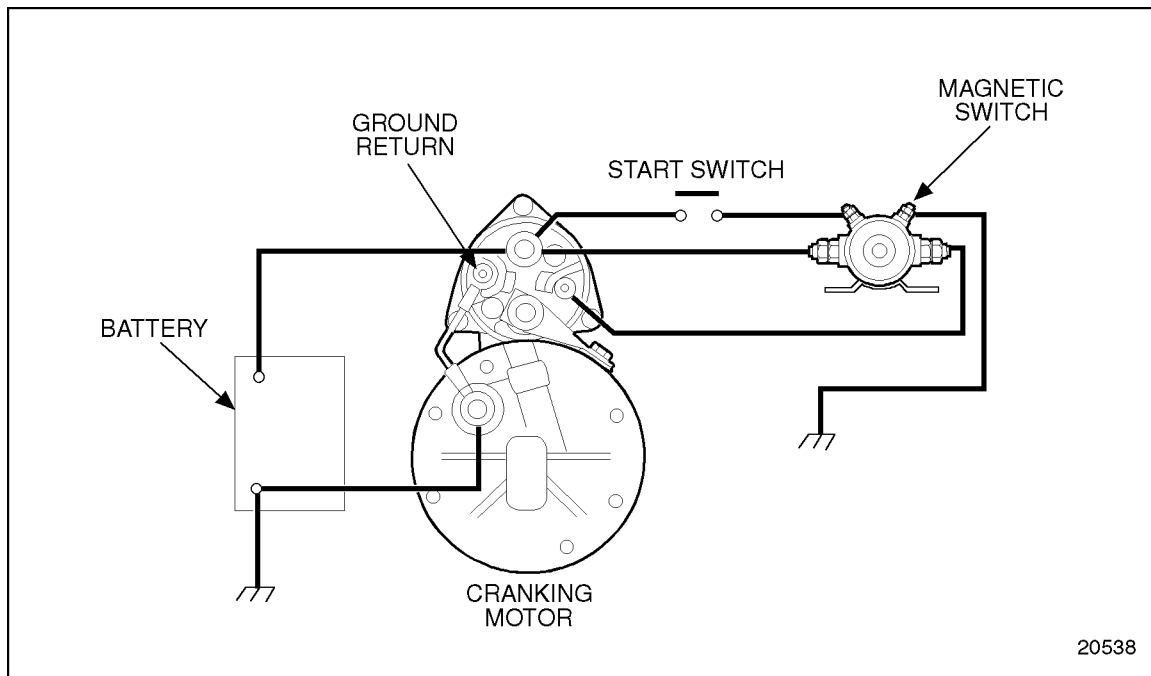

Figure 3-1 Basic Cranking Circuit
2. Clamp a heavy gauge battery jumper cable between the two large studs of the magnetic switch. See Figure 3-1.
2. Place the black voltmeter lead to the starter ground terminal, see Figure 3-1.